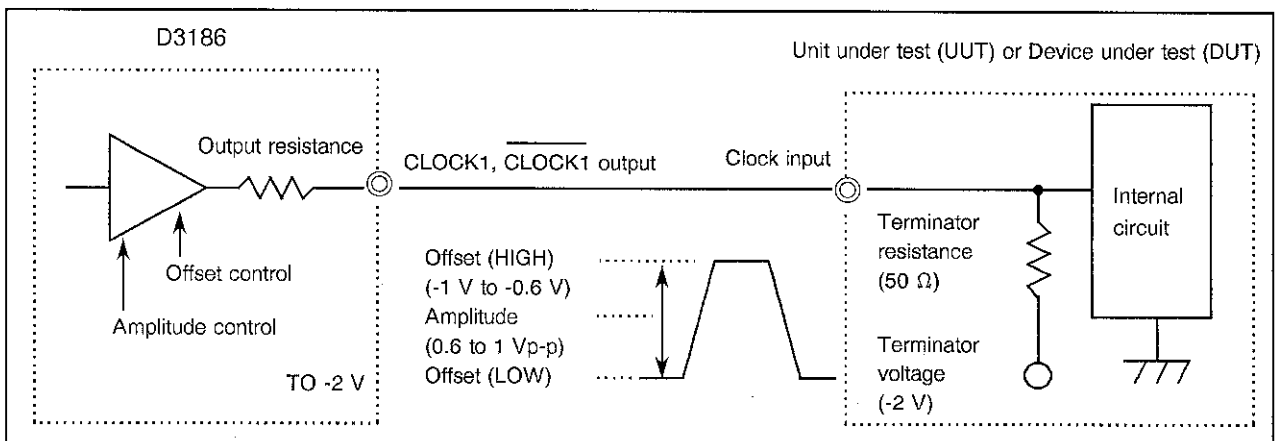

Figure 4-5 CLOCK1 and CLOCK1 Output, DC Connection, -2 V Termination, ECL Level
- (b) When the terminator voltage of the UUT/DUT clock input is -2 V (see Figure 4-5.):